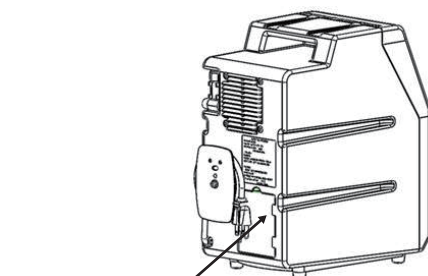

FIGURE 3
B. REPLACING CABINET FILTER (FIGURE 3)